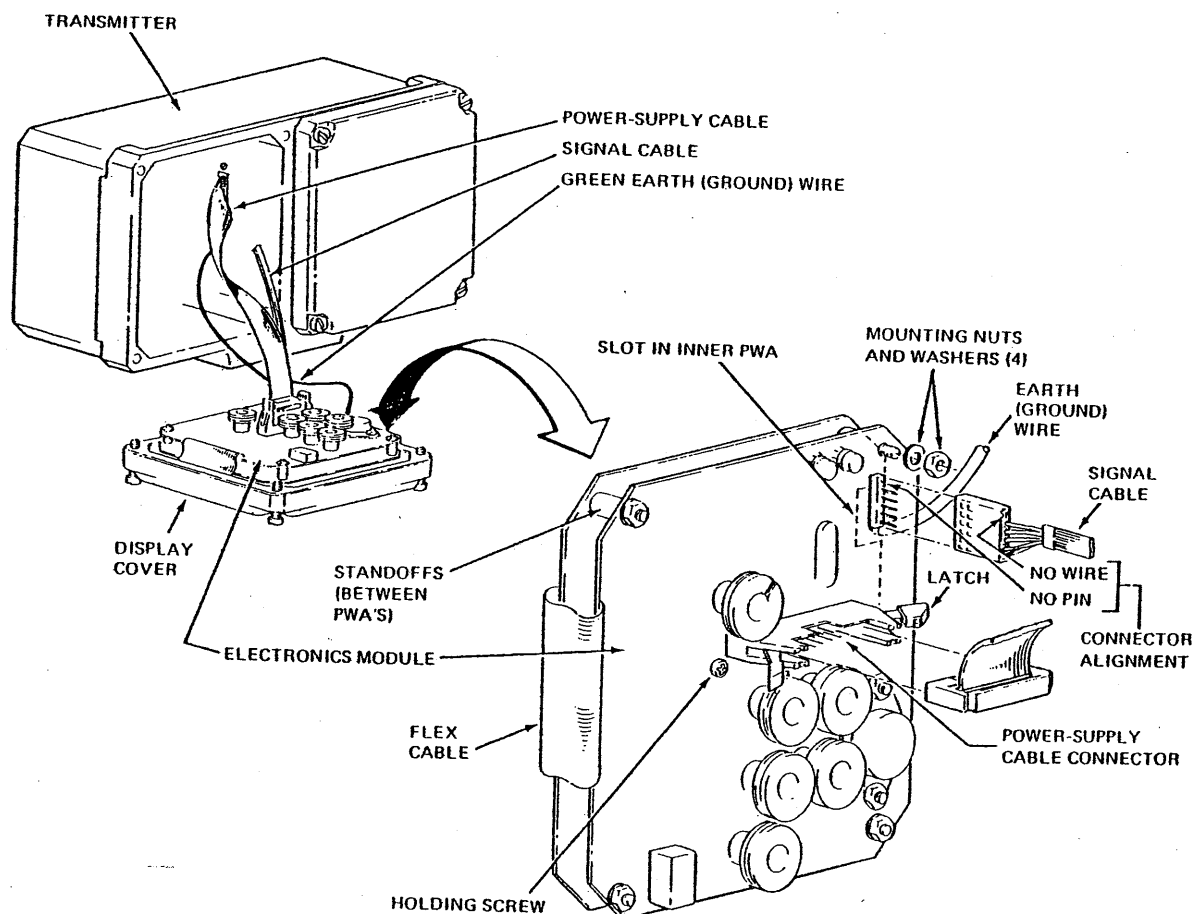

Figure 9. Electronics Module Replacement
The electronics module is located on the inside of the display cover as shown in Figure 9. To install a new module, complete the following steps.
2. Refer to Figure 9 and remove display cover from transmitter.
3. Unlatch power-supply cable (shown in Figure 9) from connector on electronics module. Disconnect power-supply and signal cables from module.
4. Unscrew the four mounting nuts (shown in Figure 9) from electronics module. Save nuts and washers for use in installing new module.
6. Unscrew holding screw (shown in Figure 9) from electronics module. Save screw for use in installing new module.
7. On new electronics module, fold flex cable to bring PWA's in contact with standoffs as shown in Figure 9.
9. Install new electronics module onto the four mounting studs on display cover as shown in Figure 9. Green earth (ground) wire on cover should pass through slot in inner PWA as shown. Secure module in place with four mounting nuts and washers removed from old module (in Step 4).
11. Connect and latch power-supply cable to connector on electronics module (see Figure 9) and secure it with end clamps on connector.
12. Connect signal cable to electronics module as shown in Figure 9 (pins and slots in alignment). Connectors are keyed to fit one way only. Do not force incorrectly-mated connectors together.